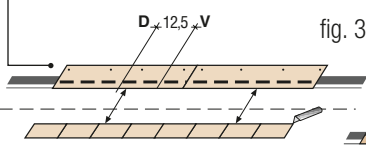

fig. 3
Installation (fig. 3/4)
1. Lay down one line of bitumen mastic near to the eaves (as indicated in fig. 3);
2. The starting course is obtained by trimming off the exposed area (14 cm), and nailing the remaining shingles staggered of 12,5 cm from line A D (as indicated in fig. 3);
3. The first course is commenced following the line A D (fig. 3/4);